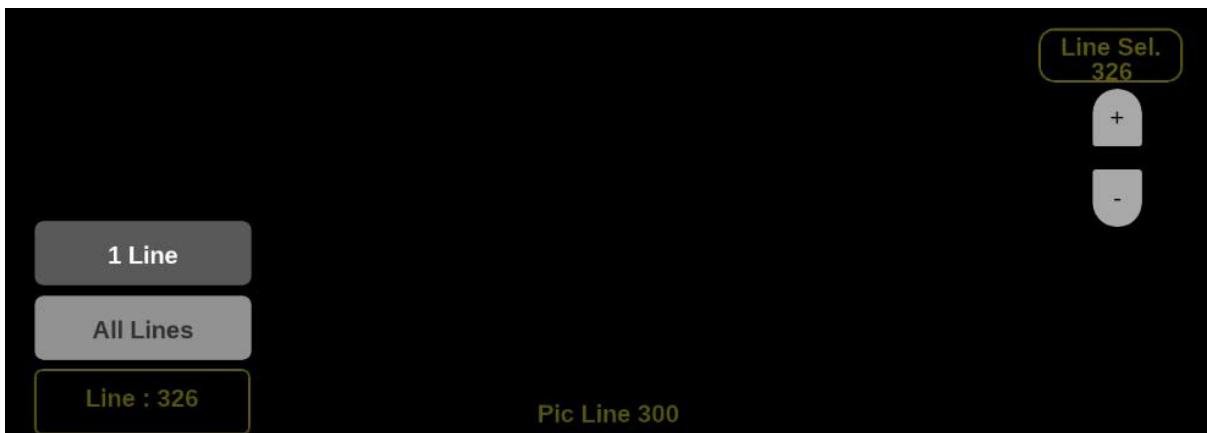

Figure 225: CIE on-screen tools – Line Select
If 1 Line is selected, the display only shows results for the selected line in the picture. The line can be selected using the on-screen tools. (See Line Select function.) Or the line can be selected directly on the Picture. (See Figure 225.)
1. Select the **Lines** button at the bottom of the application. (See Figure 225.)